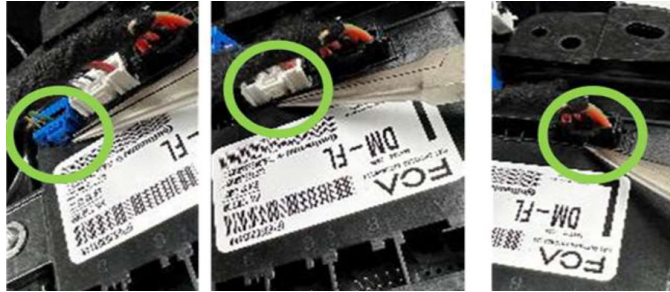

Fig. 18
20. Disconnect the Door Control Module (DCM) wire harness connectors Fig. 18.